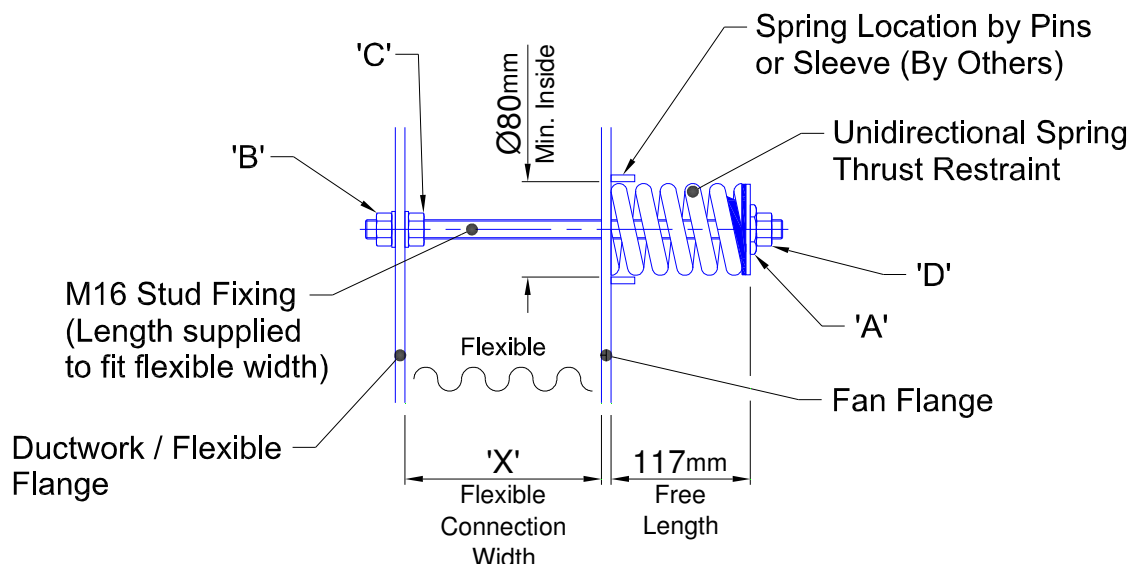

Figure 3
- 3) Provision for the thrust restraint must be made within the existing adjoining ductwork and fan flange. Pins or steel tubes must be installed on the fan flange for the location of the spring as detailed in Figure 3.
- 5) The standard M16 stud provided with the thrust restraint will be supplied to suit the flexible connection width 'X' and flange thicknesses and must be stipulated when ordering (see Figure 3).
- 6) Once the adjoining flanges have been aligned, the stud can be passed through the opposing holes and the spring located within the pins or tube as shown in Figure 3.